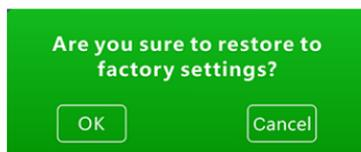

Figure 10
Enter the setting interface, and click the restore factory settings touch button to enter the restore factory settings interface for confirmation. In conforming interface, click OK, the interface shown in Figure 10 will pop up. Select "OK" to restore the original factory settings parameters or select "Cancel" to quit restoring factory settings.
5.7.3 In setting interface, touch key “10” Restore Factory Setting key, click OK to enter interface shown in Figure 10, and decide whether to restore the factory setting by clicking “OK” or “Cancel” key.